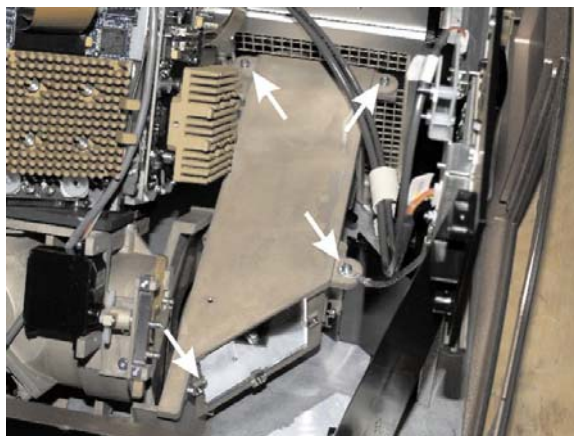

Figure 38. Remove Integrator Rod Cover
7. Remove the green DMD fan (in 1000W and 1200W models) – four (4) - #1 Phillips screws. See *Fans, Green DMD*.
9. Remove the four (4) - #1 Phillips screws retaining the integrator cover (Figure 38.) and then remove the cover.